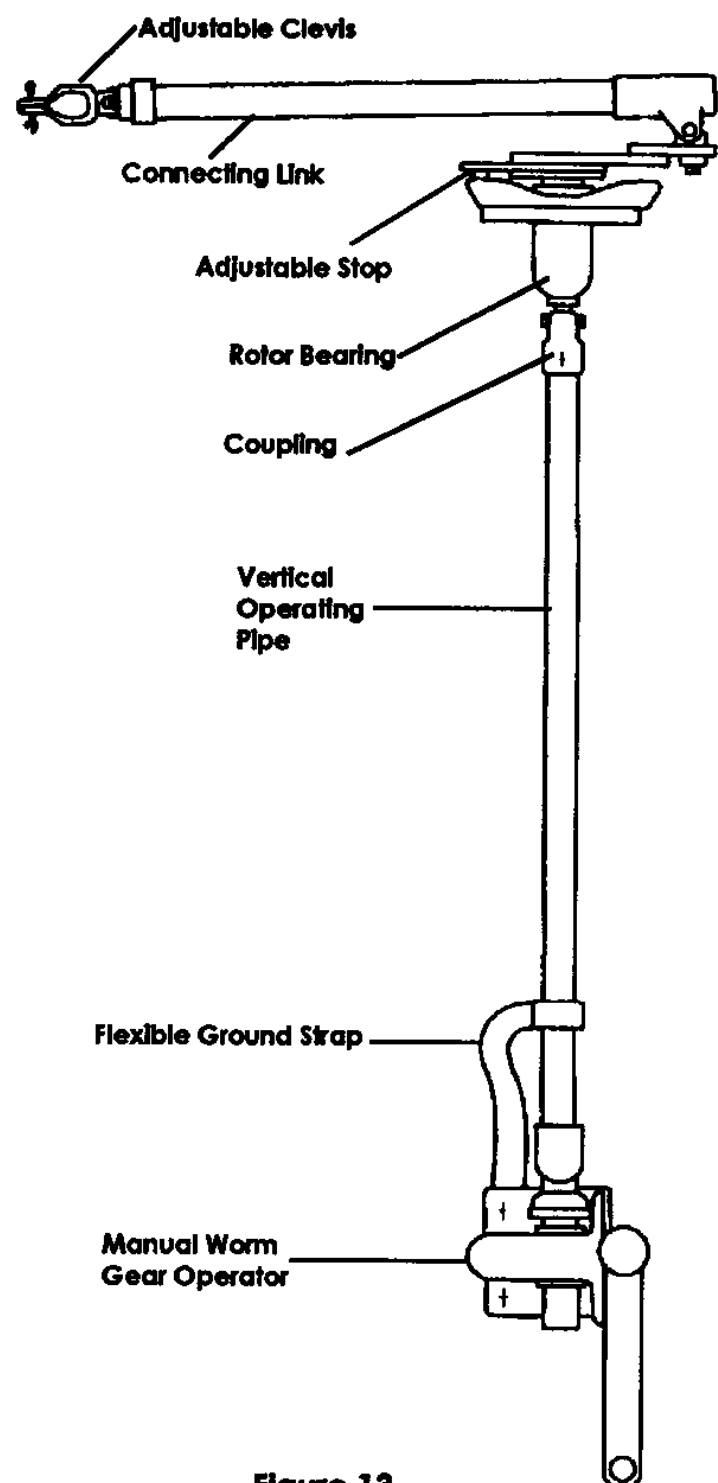

Figure 13
The vertical operating pipe (Fig. 13) is pre-drilled at one end for insertion of a 5/8-inch diameter pin.
1. Fasten the vertical operating pipe to the offset rotor bearing shaft (or on the pole unit rotor bearing shaft for direct-connected switches) using the 5/8-inch coupling pins supplied with the unit. Refer to Fig. 13.
1. Slide a flexible ground strap on the vertical operating pipe (Fig. 13) and connect the opposite end to the structure. Ensure that the strap is solidly in place on both the vertical operating pipe and structure.
1. Slide a flexible ground strap on the vertical operating pipe (Fig. 13 on page 9) and connect the opposite end to the structure. Ensure that the strap is solidly in place on both the vertical operating pipe and structure.